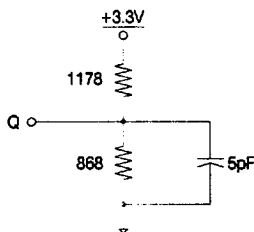

Fig. 2 HIGH-Z OUTPUT LOAD
13. Output loading is specified with $C_L=5pF$ as Figure 2. Transition is measured $\pm 200mV$ from steady state voltage. These parameters are sampled.